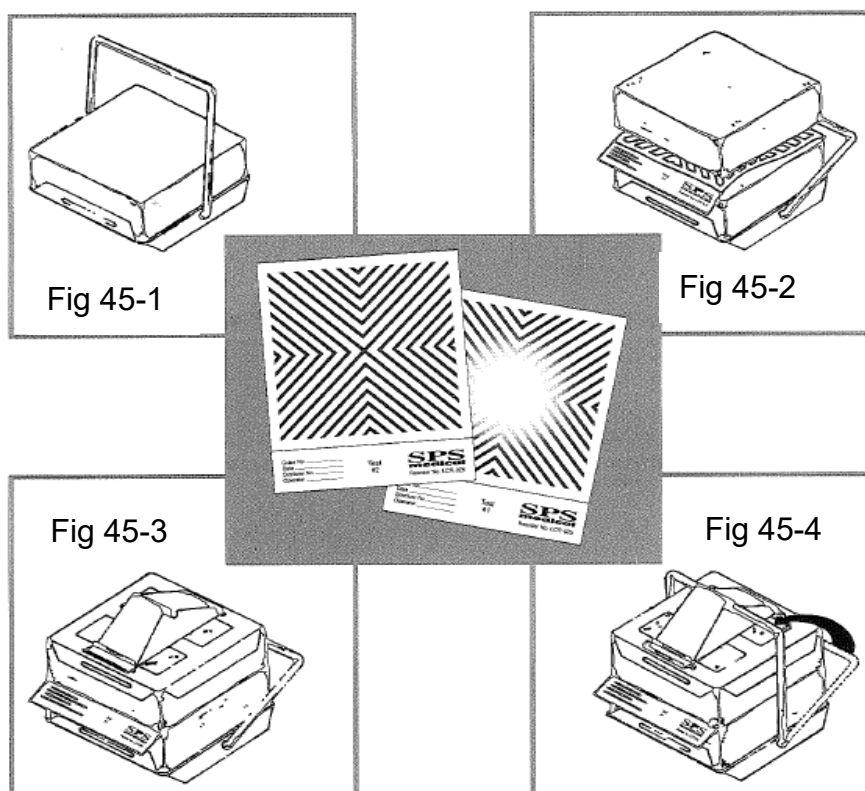

Figure 45
A. Assembly of the cube is reference Figure 45.